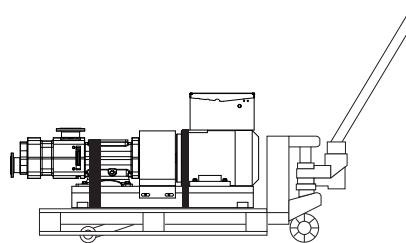

Fig. 6 Transport by forklift
- Check whether the pump is adequately secured on the pallet. For instance using straps, see Fig. 6 "Transport by forklift", Page 9.